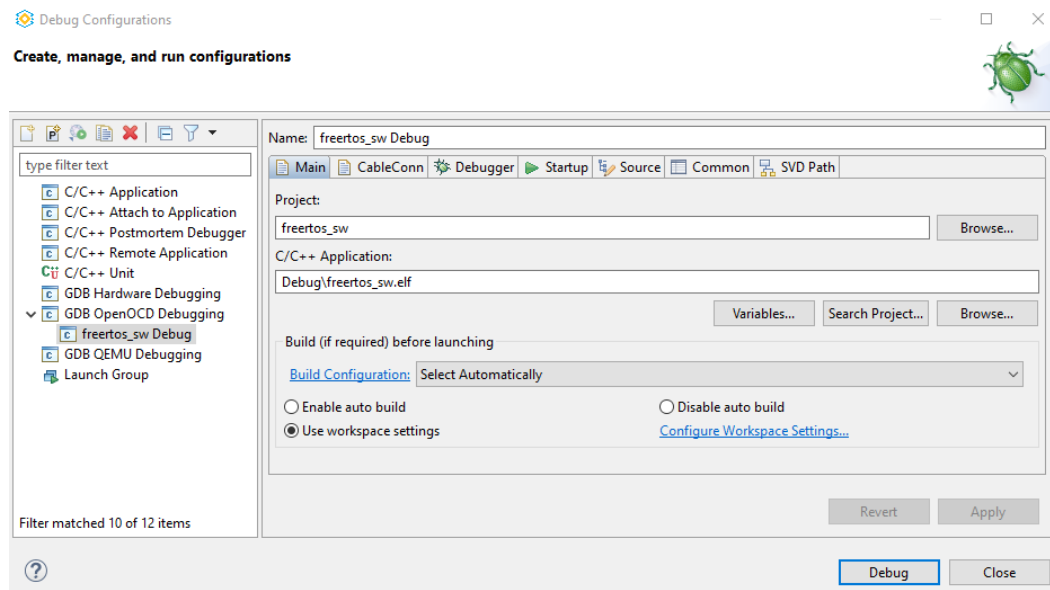

Figure 3.7. Default Settings for Main Tab
- c. Maintain the default settings in the Main tab as shown in Figure 3.7.